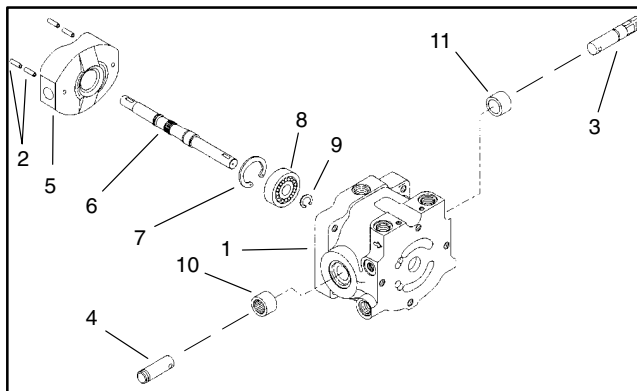

Figure 49
2. Secure ball bearing onto shaft with retaining ring. Press assembly into variable housing. Snap retaining ring into housing to secure bearing and shaft (Fig. 49).
3. Position variable housing so the large cavity is up. Press needle bearings into each side of the variable housing. Make sure bearings are flush to 1/64 inch (0.40 mm) below the counter bore for the lip seals (Fig. 49).
4. Place swashplate into variable housing with the counter bore for the thrust plate facing up (Fig. 49).
5. Make sure control shaft is positioned to the proper side of the variable housing before installing. The control shaft should be installed on the side of the pump that will accept the pump control linkage (Fig. 49).